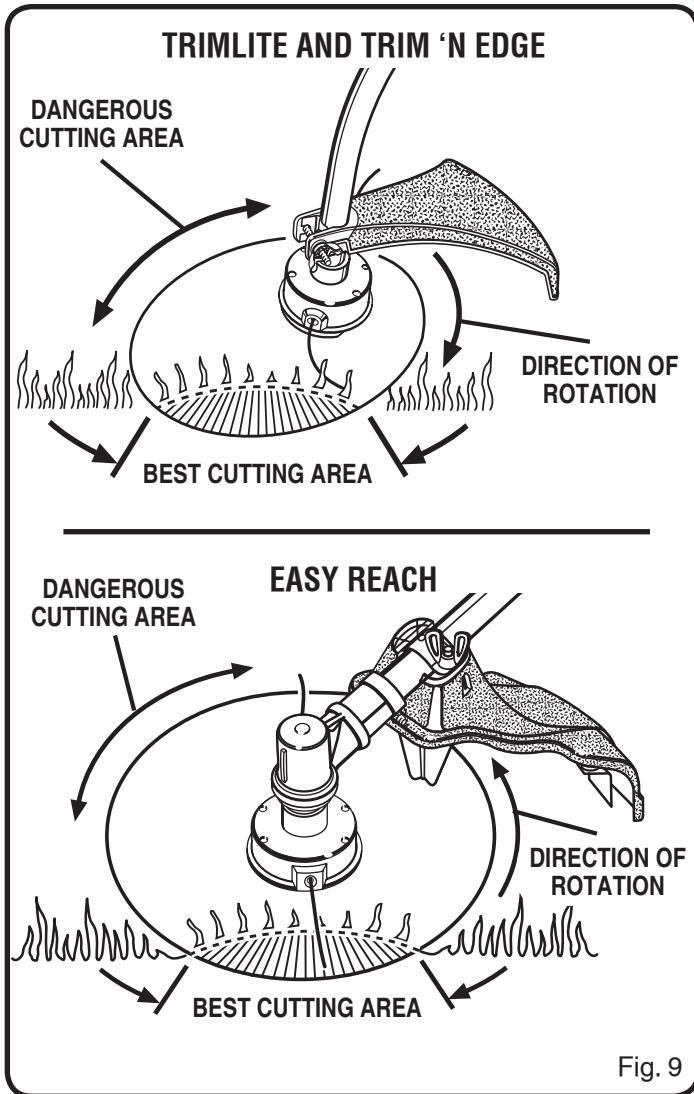

Fig. 9
See Figure 9.
- The curved shaft trimmer cuts when passing the unit from right to left. The straight shaft trimmer cuts when passing the unit from left to right. This will avoid throwing debris at the operator. Avoid cutting in the dangerous area shown in Figure 9.